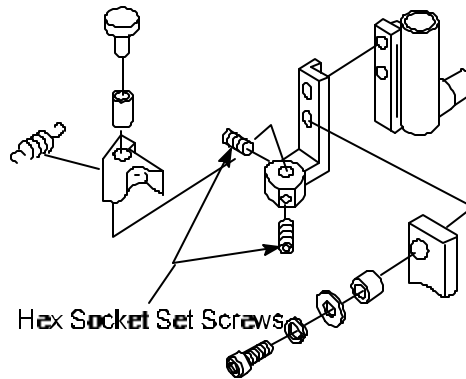

Figure 6
18. **Place** Needle Bar Driver Fixing Pin through Needle Bar Driver then **install** on new Needle Bar Driver Fixing Base. (While holding the Needle Bar Fixing Base towards you-Needle Bar Driver is in front view, make sure the Needle Bar Driver Return Spring hole is facing the left). *Figure 6*